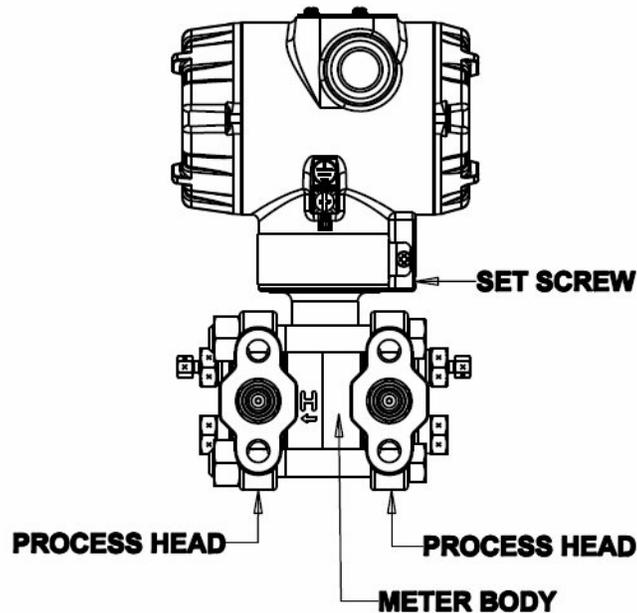

Figure 23 – Hardware Location to Remove the Meter Assembly
8. Refer to Figure 23. Use a 2 mm hex wrench to completely loosen the set screw on the outside of the housing to permit rotating the meter body.